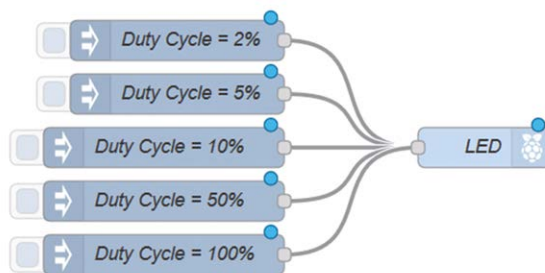

Figure 5.60 Flow program of the project
Node-RED flow program: Figure 5.60 shows the flow program. In this program, 6 nodes are used: 5 **inject** nodes with different duty cycle settings and a **rpi gpio out** node.
- Create 5 **inject** nodes, set the payloads to numeric values of 2, 5, 10, 50, 100. These will be the duty cycles of the PWM waveform. Name each inject node with their corresponding duty cycles as shown in Figure 5.60. For example, the configuration of the node with a 50% duty cycle is shown in Figure 5.61
Join the nodes as in Figure 5.60. Click inject node 2% and you should see that the LED is very dim. Clicking higher duty cycles should make the LED brighter.